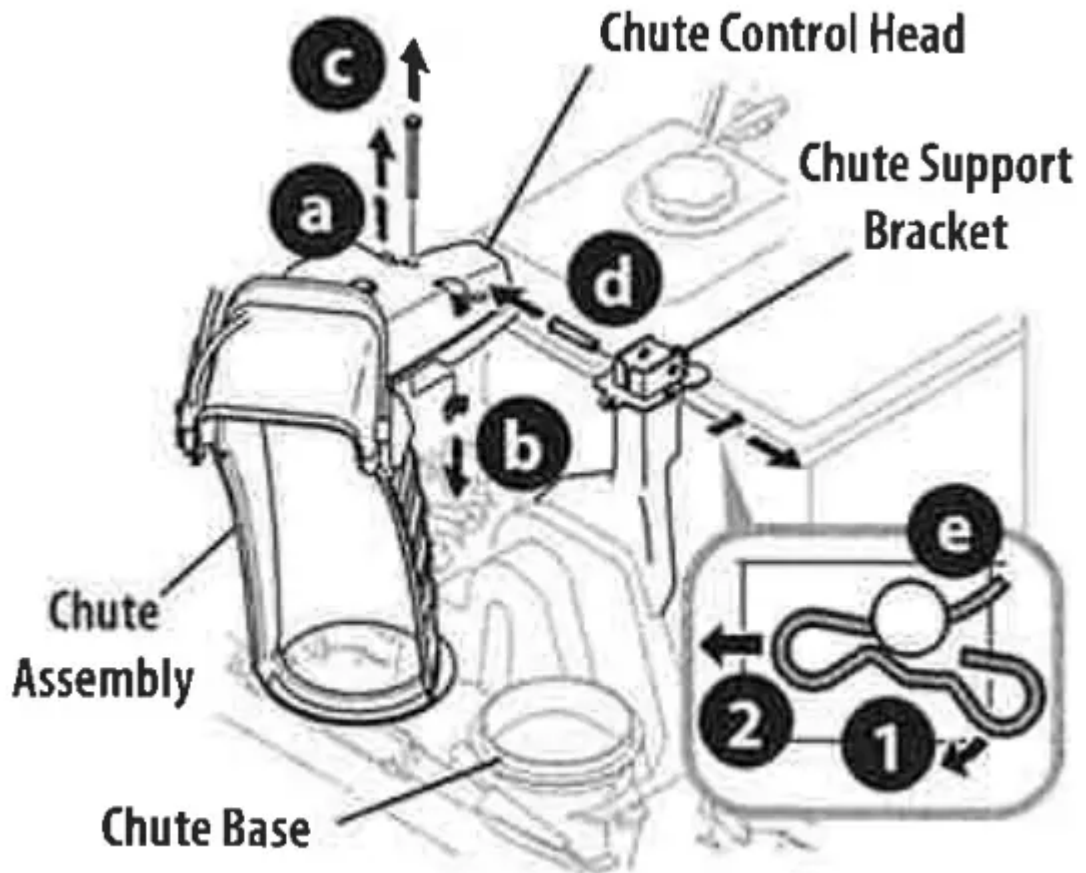

Figure 19
1. Remove hairpin clip (a), wing nut (b) and hexscrew (c) from chute control head and clevis pin (d) and bow-tie cotter pin (e) from chute support bracket (Figure 19).